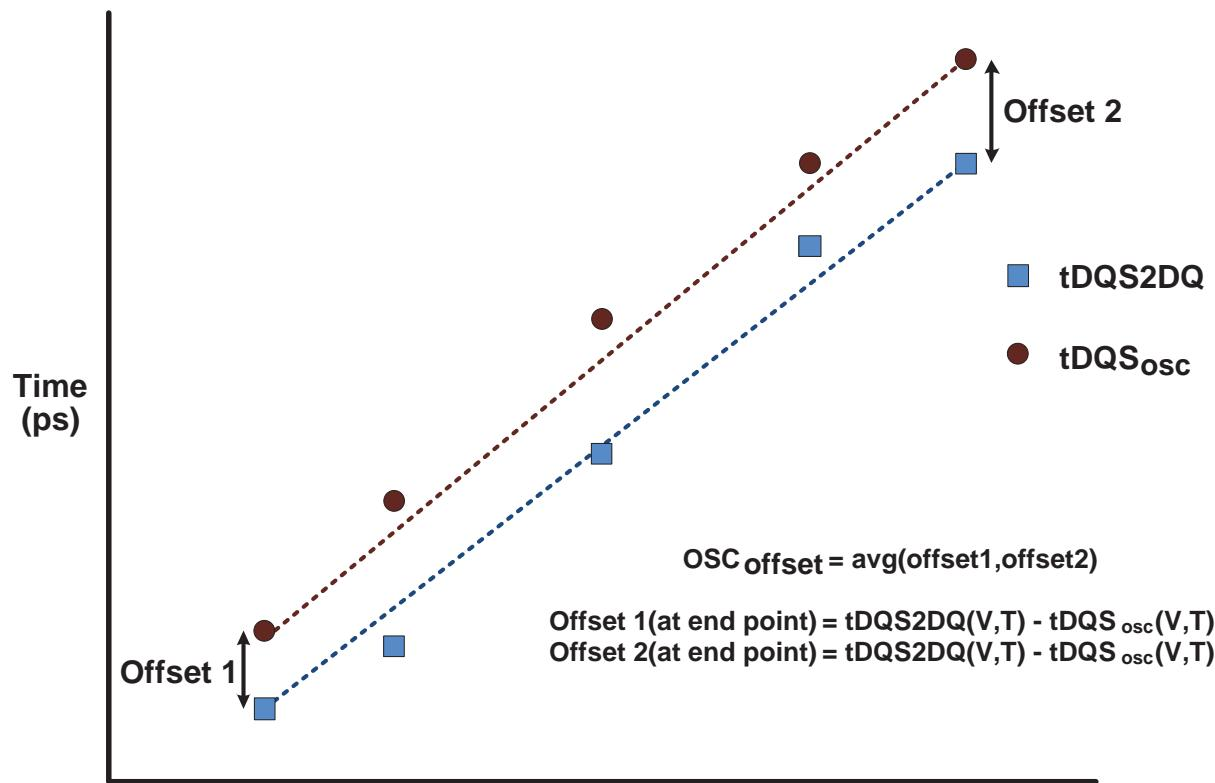

Figure 4.103 — Interval oscillator offset OSCoffset
- OSCOffset: Average delay difference over voltage and temp(shown in Figure 4.103)